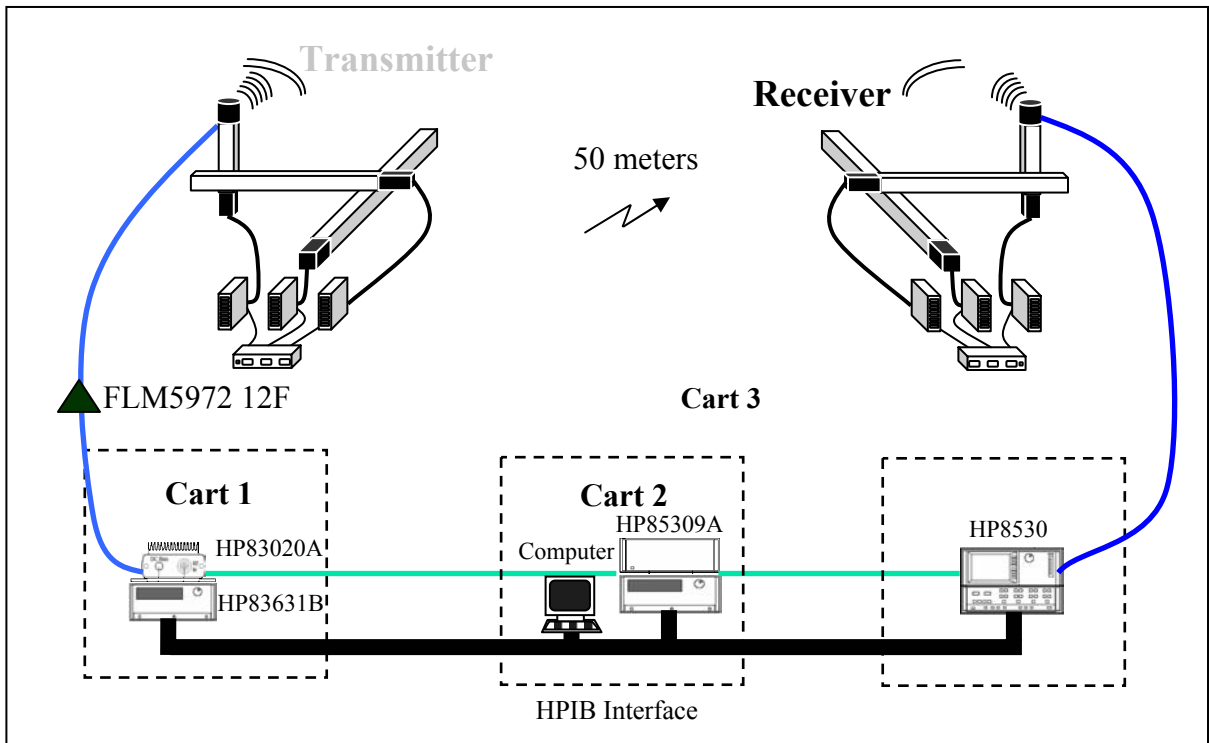

Figure 1. MIMO channel measurement system.
As illustrated in Figure 1, our MIMO-channel measurement system is composed of two parts: (1) the HP85301B antenna pattern measurement system, used to measure the channel frequency response, and (2) the actuator positioning system, which emulates an arrays at both ends of the link by moving the antennas to arbitrary pre-programmed locations. The actuator controller moves the antennas to a pair of specified positions, and then the channel is measured. This procedure is repeated until all the desired antenna positions have been sampled.